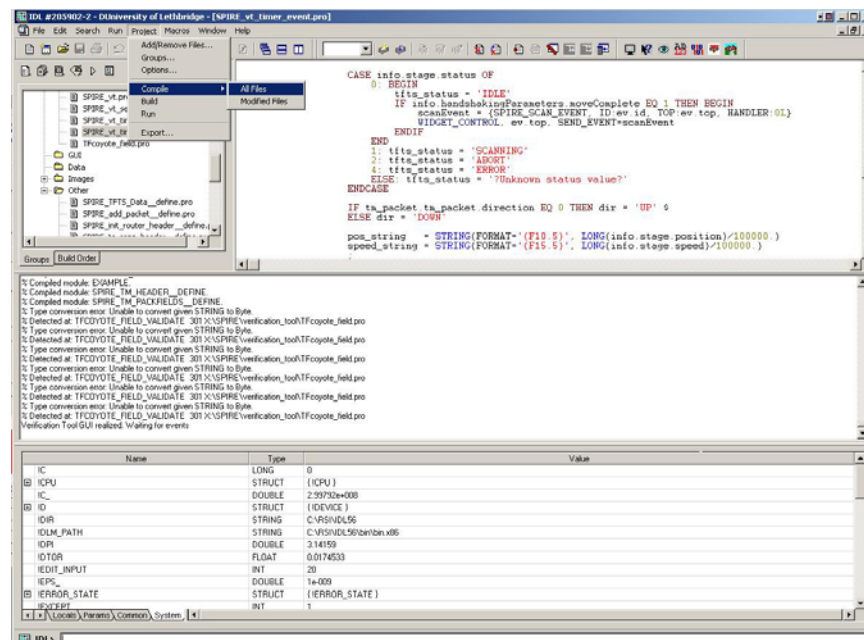

Figure 2 The User Interface Project
3. **Compile the User Interface source code.** Select Project→Compile→All Files to compile the TFTS-UI source code (see Figure 2).